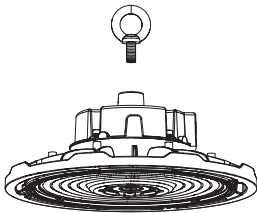

FIG. 1
- Install eye-bolt into the fixture and tighten it. (Fig. 1)